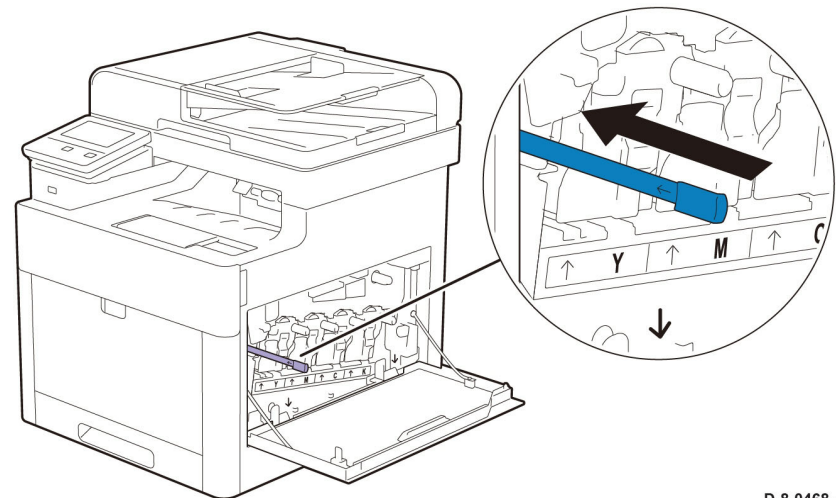

Figure 7 Return the cleaning rod to its original location.
9. Return the cleaning rod to its original location, Figure 7.